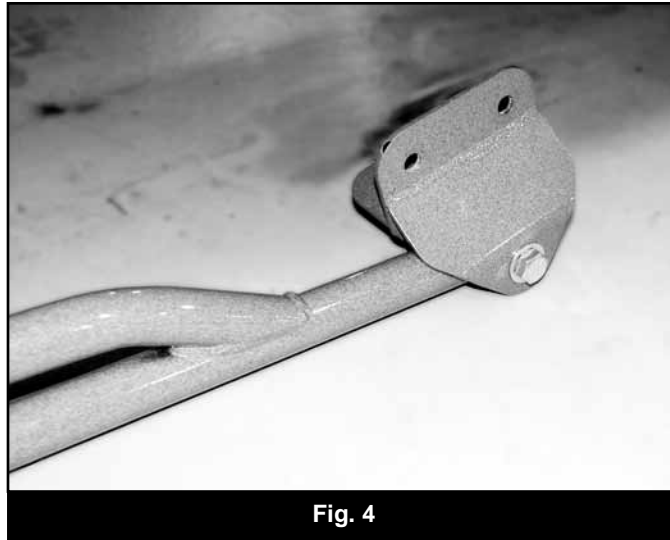
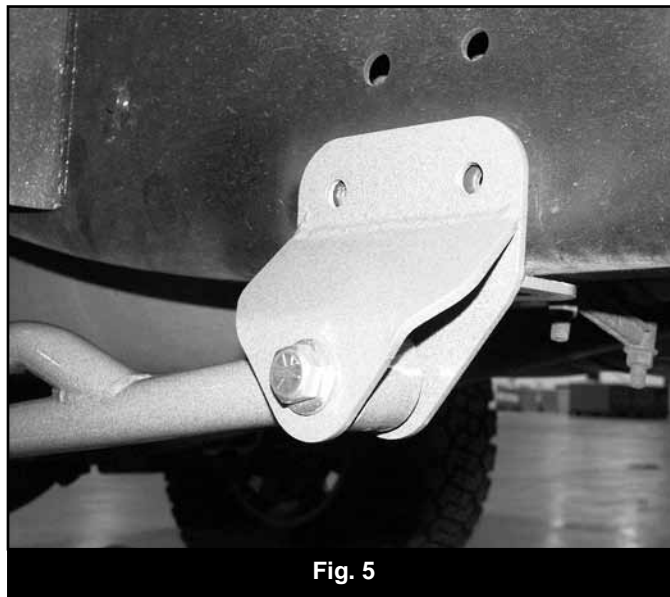

Fig. 4
Fig. 5
5. Loosely attach the provided frame bracket (01803) with a  $9/16$ " x 3" bolt, nut and  $9/16$ " SAE washer to the opposite end of the traction bar so that the "L" in the bracket mounts to the frame (Fig 4). Hold the bracket flush against the frame and using the four holes in the bracket as a template, mark the locations to be drilled on the frame (Fig 5). Lower the bracket/traction bar from the frame.
17. For a 3/8" rivet nut, hold the nut closest to the rivet nut still with an 5/8" wrench and tighten the 3/8" bolt with a 9/16" wrench to set the rivet nut. Be sure to hold the rivet nut flush to the surface and square to the hole as it is tightened. **Figure 4**
18. For a 1/2" rivet nut, hold the nut closest to the rivet nut still with an 7/8" wrench and tighten the 1/2" bolt with a 3/4" wrench to set the rivet nut. Be sure to hold the rivet nut flush to the surface and square to the hole as it is tightened. **Figure 4**
22. Verify proper installation by checking for consistent rivet nut deformation to see the threads are square and centered to the rivet nut. **Figure 5.**